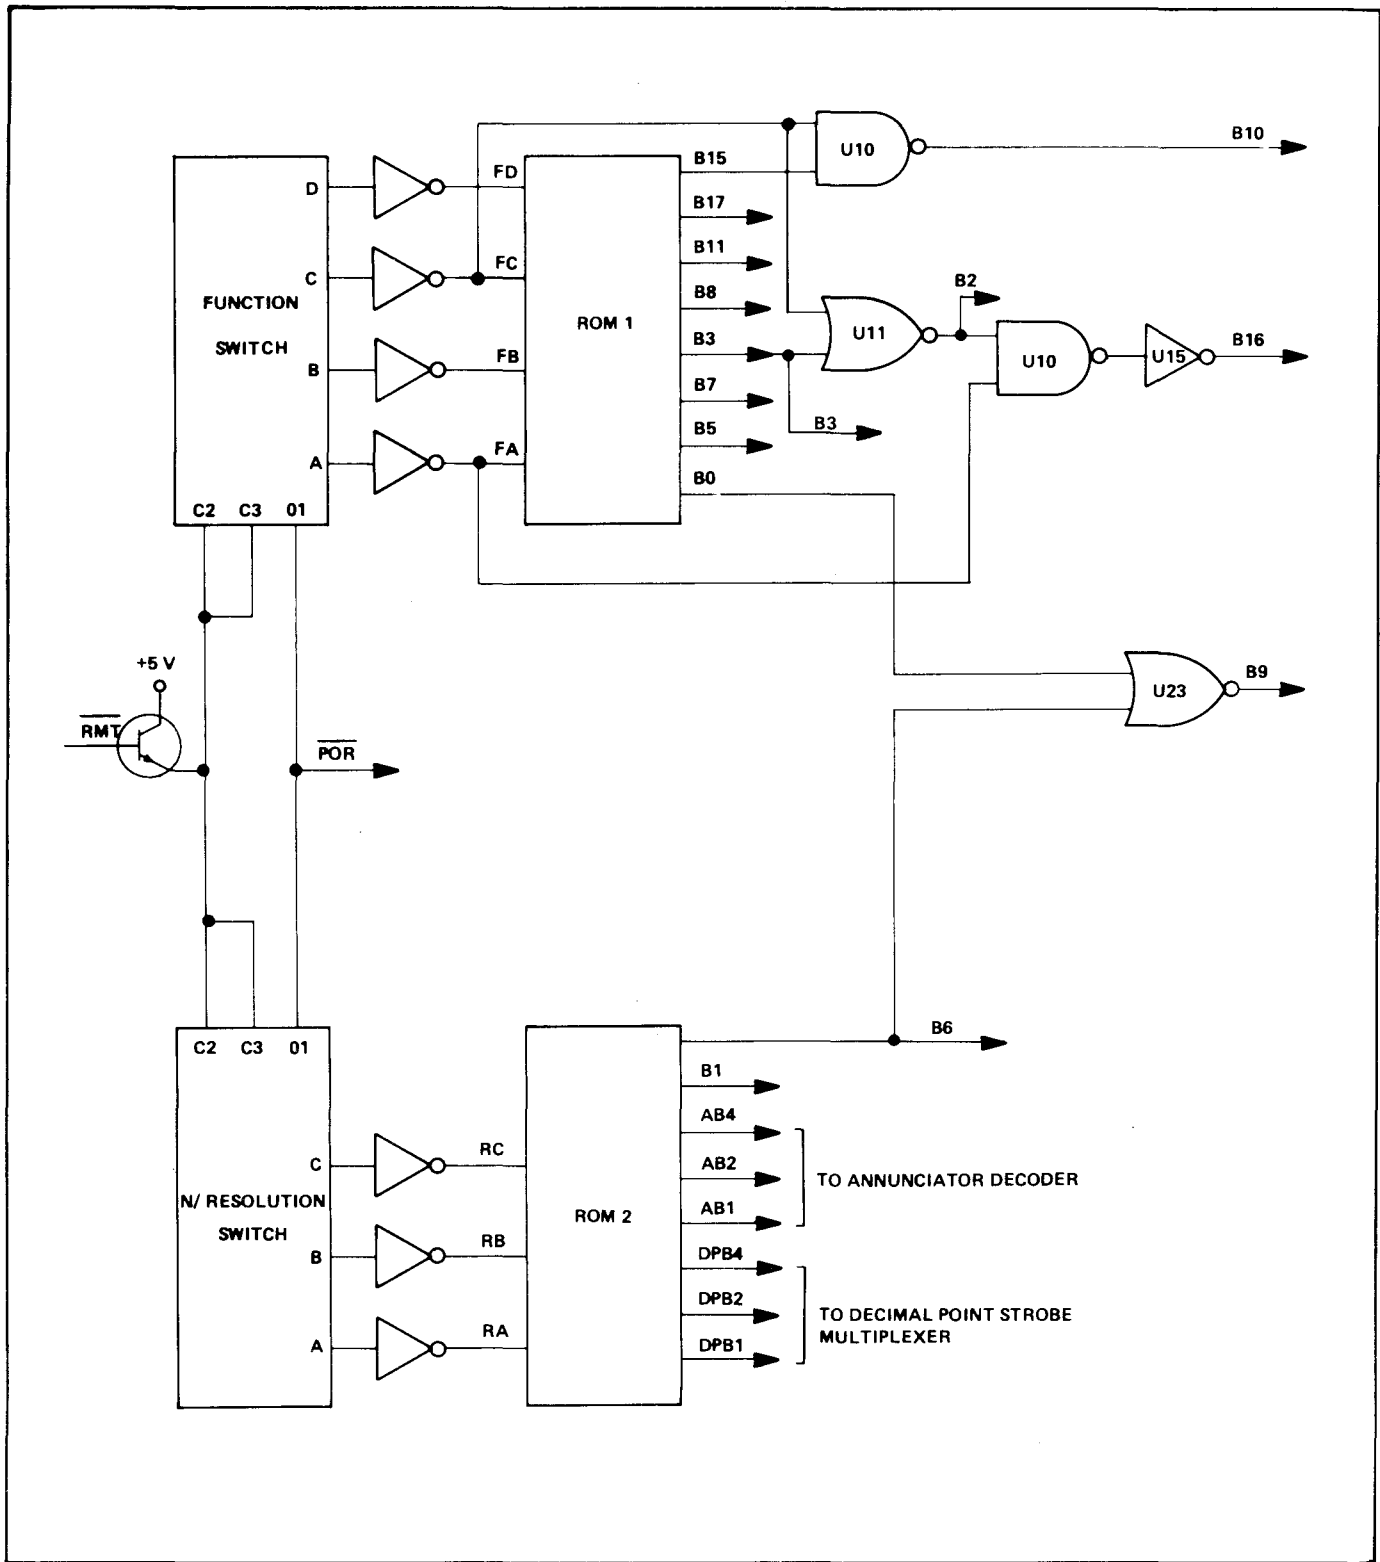

Figure 1.23 - Function and Resolution Logic
1.4.10.1 The function and resolution logic determine which circuits within the counter are activated. Figure 1.23. shows the function and resolution logic. The function and resolution logic is contained in read-only memory (ROM) and addressed by the front panel FUNCTION and N/RESOLUTION switches in local control or by the microprocessor (Model 9514 only) in remote control.